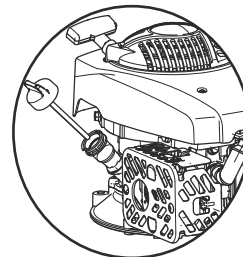

Fig. 9
1. Remove dipstick, wipe it clean, and fully re-insert it, check to see if oil is needed by the oil mark that is left on the dipstick. (Fig. 9)
2. Remove the dipstick and check the oil level (Fig. 9) If the oil level is low on the dipstick, slowly pour oil into the oil fill hole to raise the oil level to the full range on the dipstick. Do not overfill. Max fill 15.8oz (0.45 L), type SAE 10w30 weight oil with an API service rating of SF or higher.